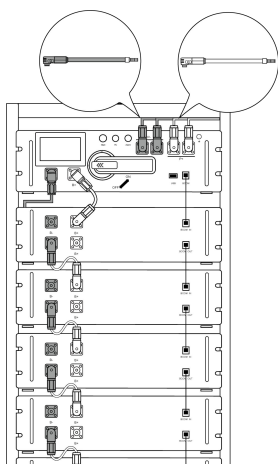
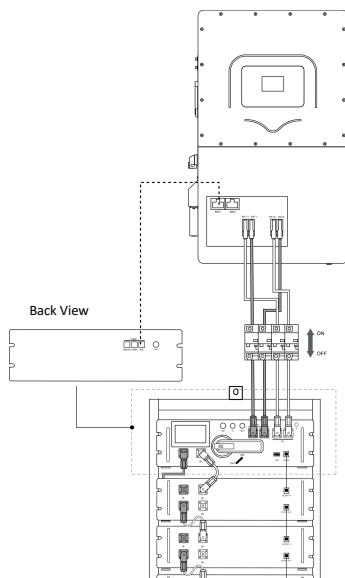

Figure 1-5
Figure 1-6
3. Attach to the PCS: See the figure 1-5 and figure 1-6.